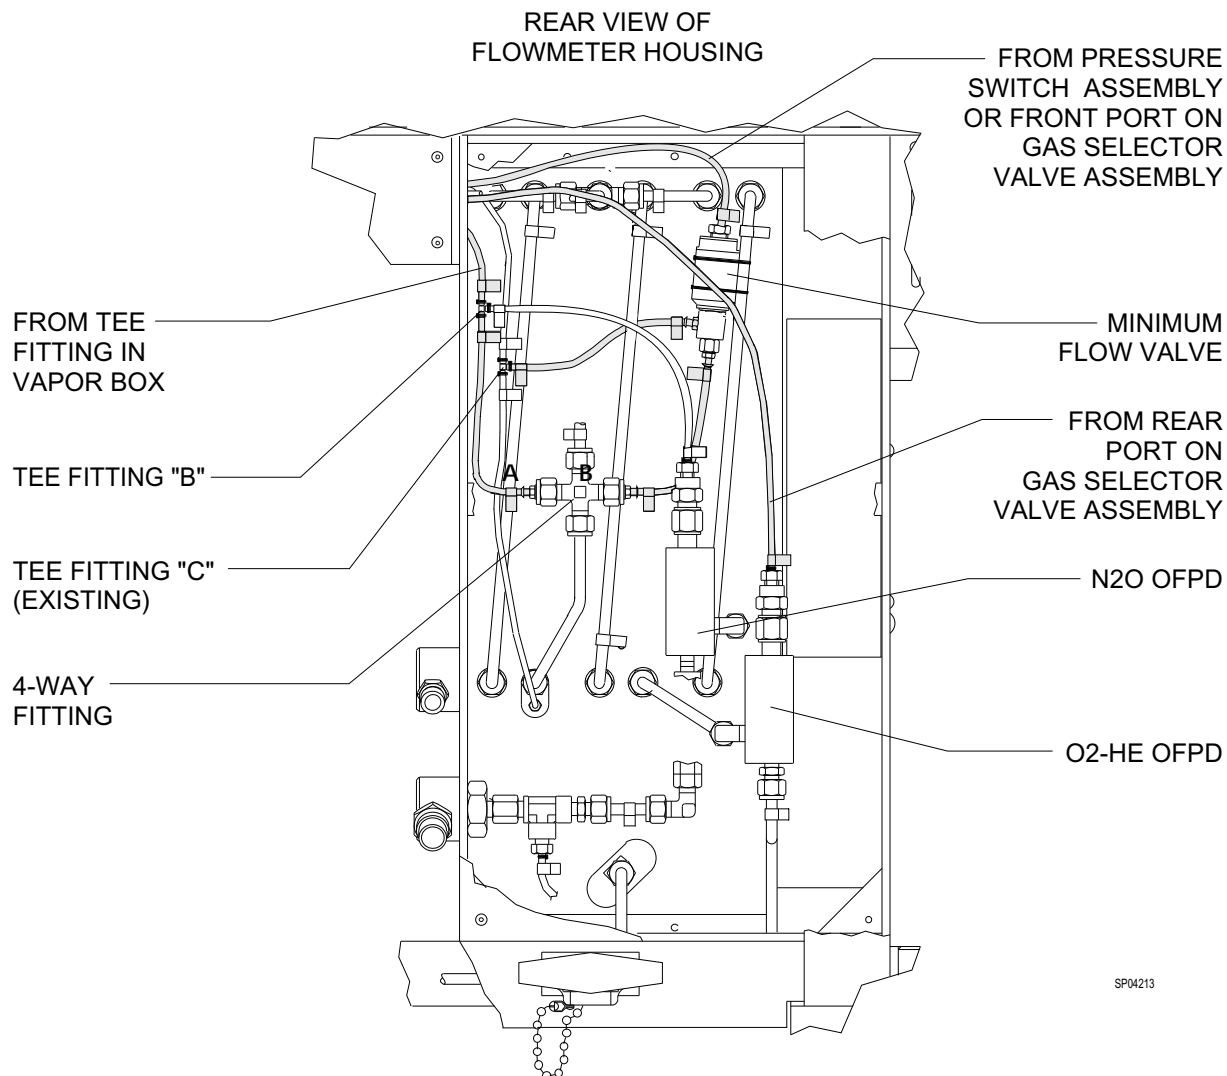

Figure 13: FLEX TUBING CONNECTIONS
60. Connect a 12 in. length of flex tubing from the remaining port of the nylon tee fitting in the vapor box to the top of nylon tee fitting "B" in the flowmeter housing. See Figure 13. Secure each end of the tube with a tie strap, and install a O₂ label at each end of the tube.
61. Connect a 5 in. length of flex tubing to the bottom of nylon tee fitting "B" and secure it with a tie strap. Connect the other end of the tubing to side port "A" on the 4-way fitting. See Figure 13. Secure this end with a press-on clamp, and install a O₂ label at each end of the tube.
63. Connect an 8 in. length of flex tubing from side port "B" on the 4-way fitting to the bottom port of the minimum flow valve, and secure each connection with a press-on clamp. Install a O₂ label at each end of the tube. See Figure 13.